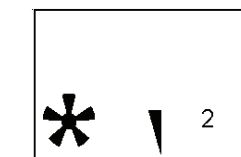

Figure 7
• ON, OFF, and Speed Setting: Press the fan button to turn on the ceiling fan at HIGH speed. Press again to change the speed to MEDIUM, then again to LOW, and then again to turn the fan OFF. See Figure 7.